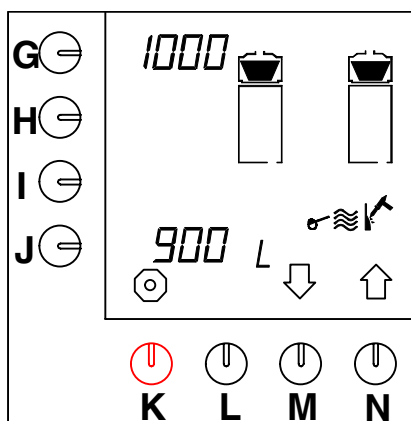

Fig. 26 Descaling counter coffee-making system
- The descaling counter appears on the display (fig.26 ).